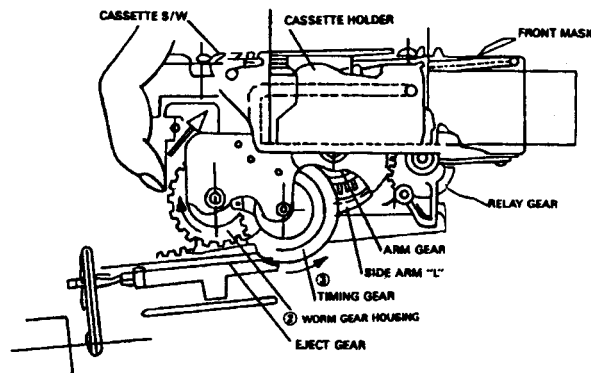

Fig 23
3. As shown Fig .23, rotate the worm gear housing of cassette housing in the direction of the arrow, until the rotation comes to stop.